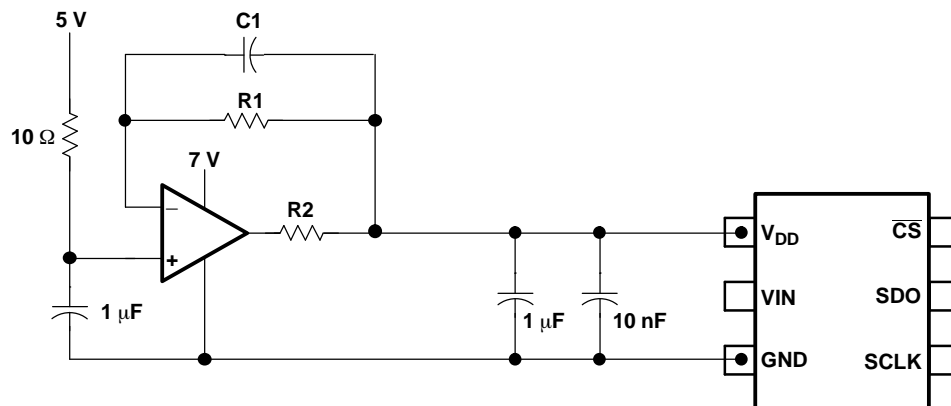

Figure 31. Buffering with the OPA735
- A low-pass filtered system supply followed by a buffer, like the zero-drift OPA735, can also be used in cases where the system power supply is noisy. Care should be taken to ensure that the voltage at the VDD input does not exceed 7 V to avoid damage to the converter. This can be done easily using single supply CMOS amplifiers like the OPA735. Figure 31 shows one possible application circuit.